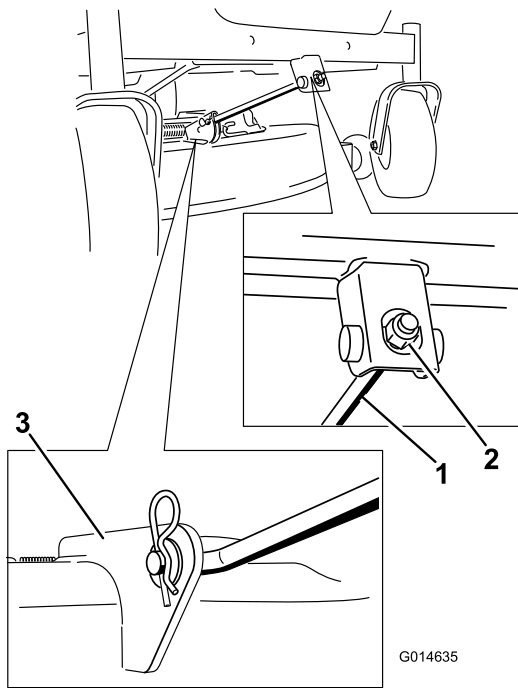

Figure 72
4. Remove the hairpin cotter from the front support rod and remove the rod from the deck bracket (Figure 72).
7. Attach the front support rod to the mower deck with the clevis pin and hairpin cotter (Figure 72).